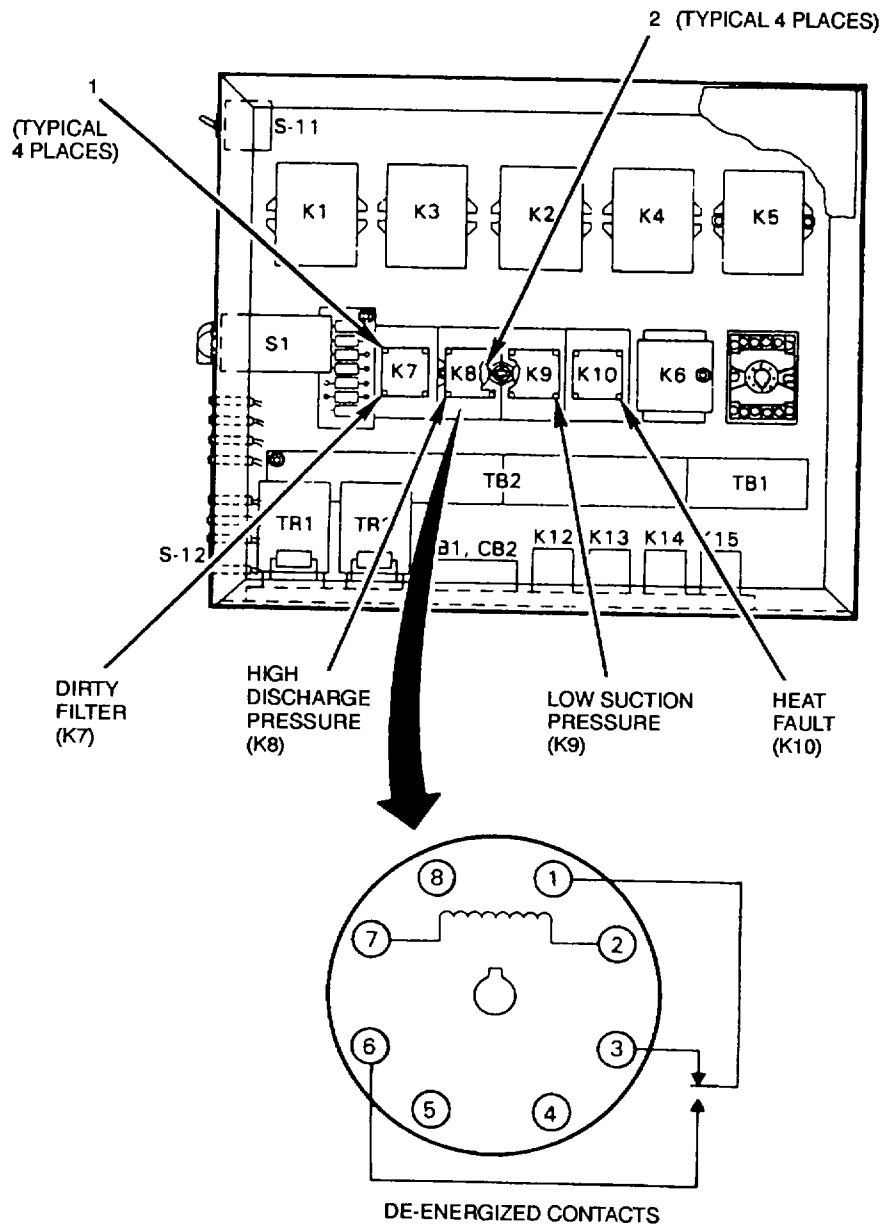

Figure 4-27. Fault Relays (K7-K10)
- (1) Disconnect air conditioner input power at source; and
- (2) Remove control box assembly (paragraph 4.27).
Pull relay (1) from socket (2) (see fig 4-27)